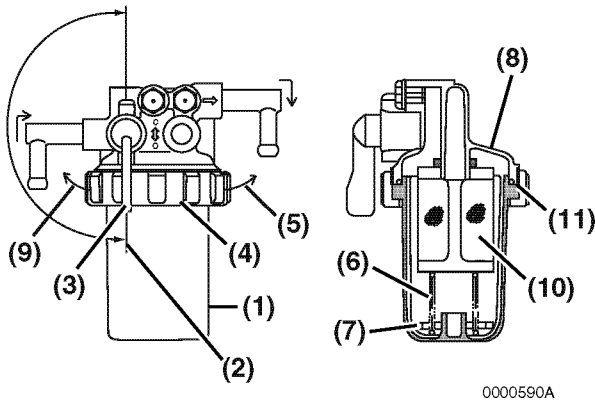

Figure 5-7
1. Position an approved container under the fuel filter / water separator **(Figure 5-7, (1))** to collect the contaminants.
2. Close **(Figure 5-7, (2))** the fuel cock **(Figure 5-7, (3))**.
3. Turn the retaining ring **(Figure 5-7, (4))** to the left **(Figure 5-7, (9))**.
4. Carefully remove the cup **(Figure 5-7, (1))**. Remove the retaining spring **(Figure 5-7, (6))** and float **(Figure 5-7, (7))** from the cup. Pour the fuel into an approved container and dispose properly. Hold the bottom of the cup with a shop towel to prevent the fuel from dripping. Wipe up any spills immediately.
6. Inspect the condition of the mesh filter **(Figure 5-7, (10))**. Clean the mesh filter if necessary.
7. Inspect the condition of the O-ring **(Figure 5-7, (11))**. Replace the O-ring if necessary.
8. Put the float **(Figure 5-7, (7))** and retaining spring **(Figure 5-7, (6))** inside the cup.
9. Reinstall the cup to the mounting flange **(Figure 5-7, (8))** and turn the retaining ring **(Figure 5-7, (4))** to the right **(Figure 5-7, (5))**. Hand-tighten only.
10. Open the fuel cock **(Figure 5-7, (3))**.